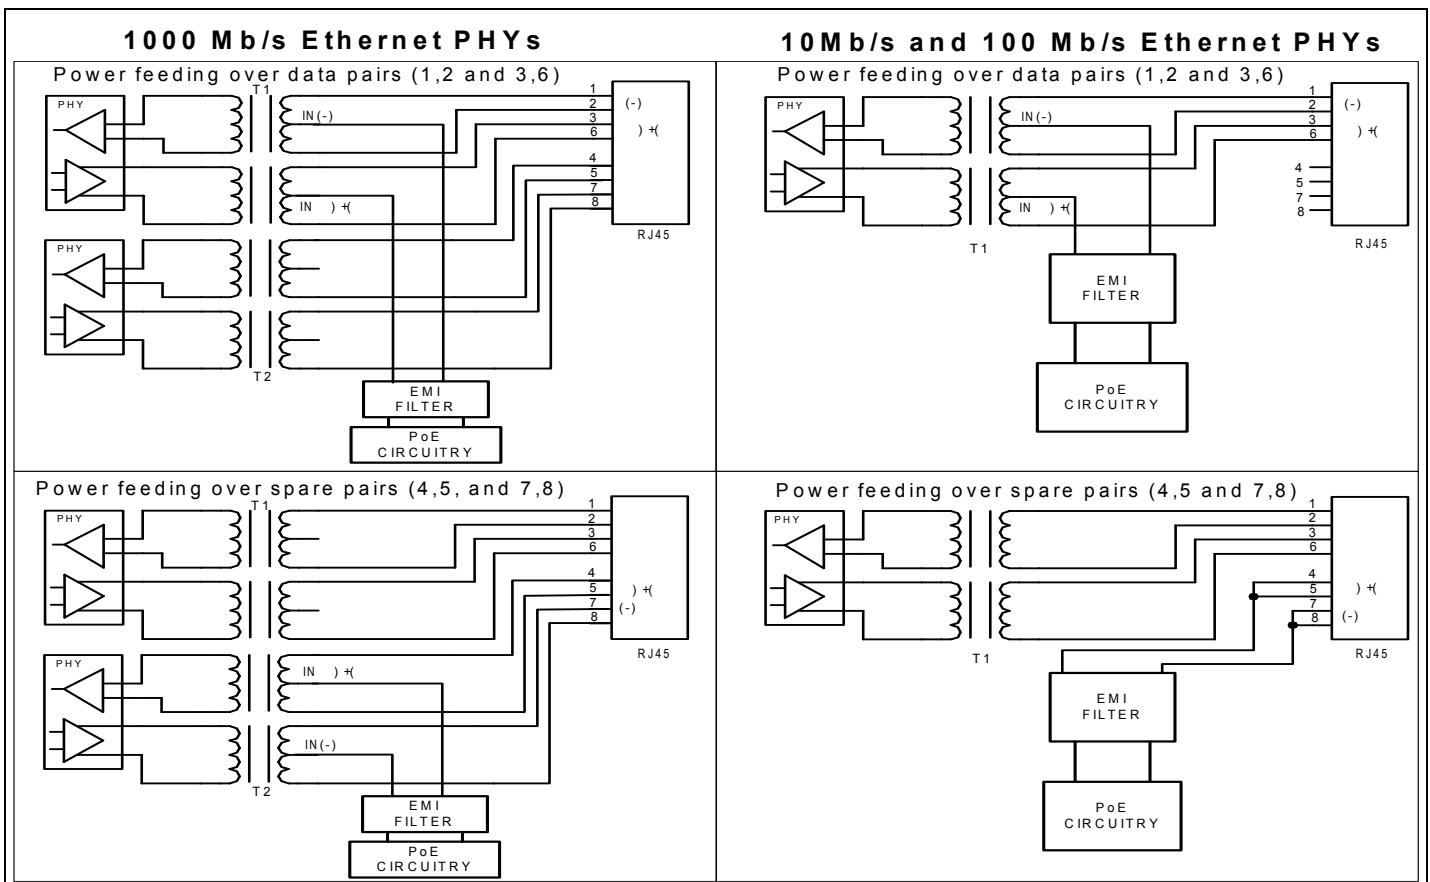

Figure 6: Output Ports Design Details
As specified in the IEEE PoE standards, PoE output power can be supplied over the data pairs or the spare pairs. Both methods are detailed in Figure 6 which illustrates an MDI-X (or Auto MDI-X) connection associated with the switch.
- The PoE output ports must be connected to the switch's pulse transformers as shown in Figure 6. The common mode choke is used to reduce RFI noise. A 'Bob-Smith' termination (resistor-capacitor) to chassis ground is optional. The circuit is to be located as close as possible to the pulse transformer.